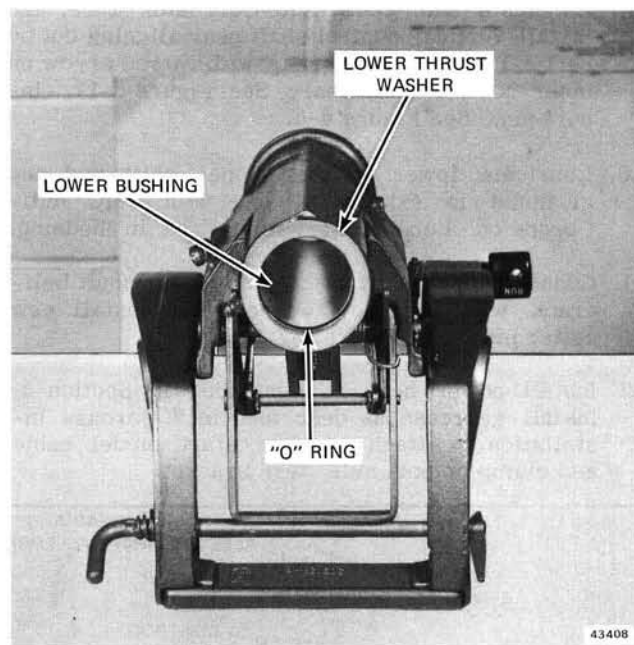

Figure 6-15. Lower Pivot Shaft Bushing
3. Install lower bushing, "O" ring and thrust washer in swivel bracket. See Figure 6-15.